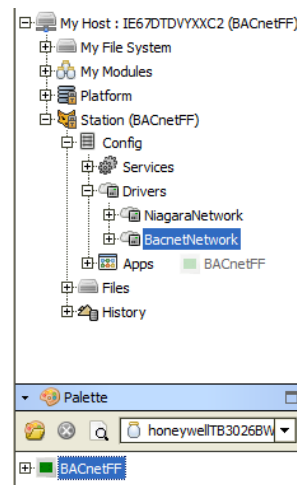

Fig. 26. Drag and drop BACnetFF on BacnetNetwork
- Drag 'BACnetFF' and Drop it on 'BacnetNetwork' added under created station. Refer to Figure 26.